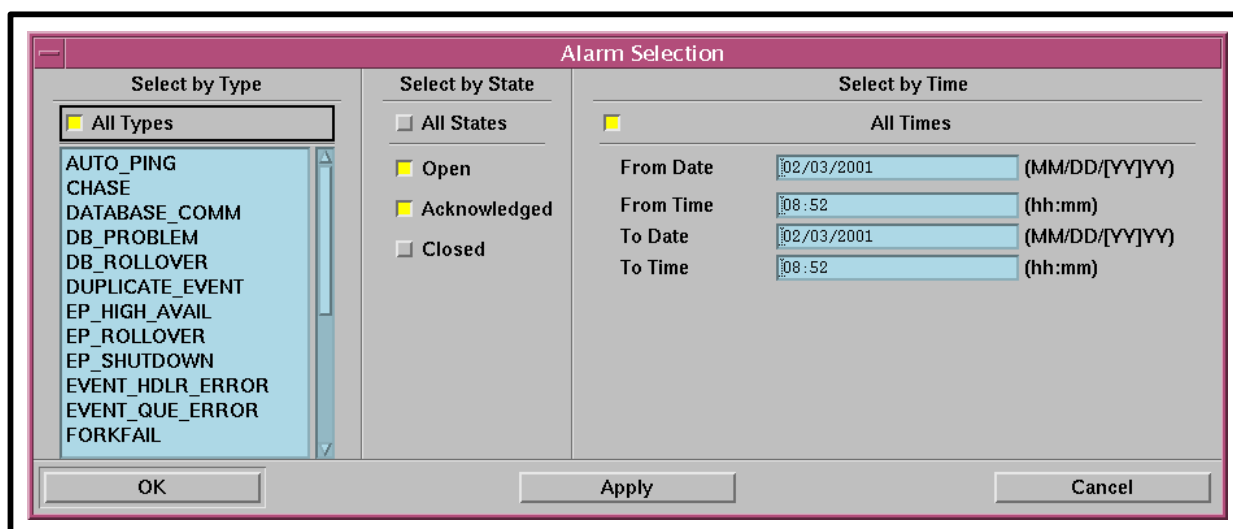

Figure 67. Alarm Selection GUI
- **Alarm Selection** GUI (Figure 67) is displayed.